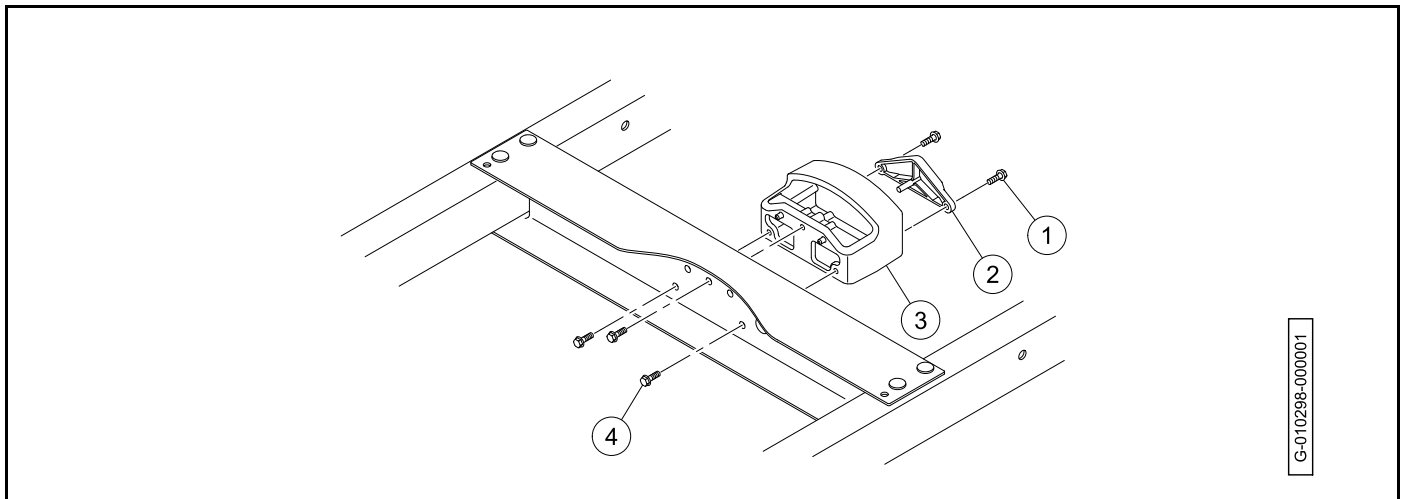

Figure 20-10 Snubber Housing and Spacer
1. Remove the two bolts (1) securing the snubber spacer (2) to the snubber housing (3) (**Figure 20-10, Page 20-9**).
2. Remove the three bolts (4) securing the snubber housing to the vehicle frame.
1. Install the snubber housing (3) onto the vehicle frame (**Figure 20-10, Page 20-9**).
3. Attach the snubber housing to the vehicle frame with the three bolts (4). Tighten the bolts from 6.6 to 8.1 ft·lb (9 to 11 N·m).
4. Slide the snubber spacer (2) into the snubber housing.
5. Attach the snubber spacer to the snubber housing with the two bolts (1). Tighten the bolts from 3.7 to 5.1 ft·lb (5 to 7 N·m).